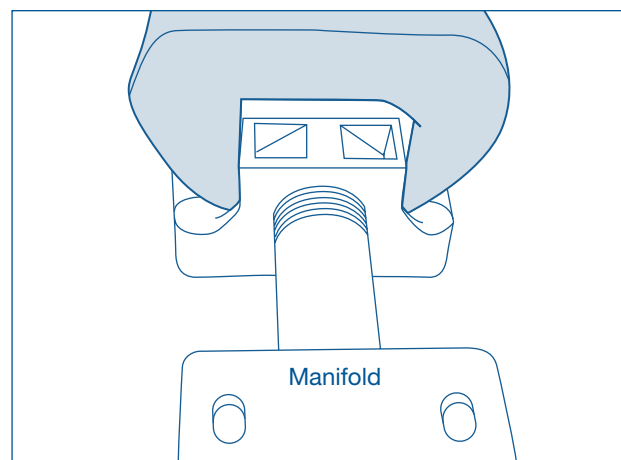

Figure 4-52.
10. Separate the manifold from the gas valve by using a 1-3/16" open end wrench or a large adjustable wrench, and grabbing the gas valve body on the square section directly above the manifold. Turn gas valve body counter clockwise to remove. (See Figure 4-52)